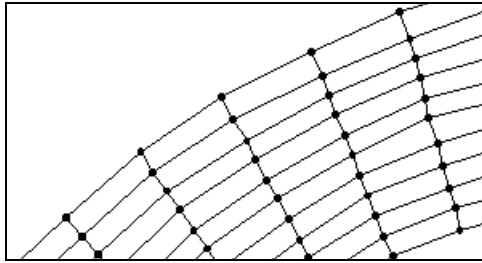

Figure 3-6. The mesh section after merging triangles.
- Repeat the above split/merge process until there are no more triangles across the section. This part of the mesh should look like Figure 3-6.